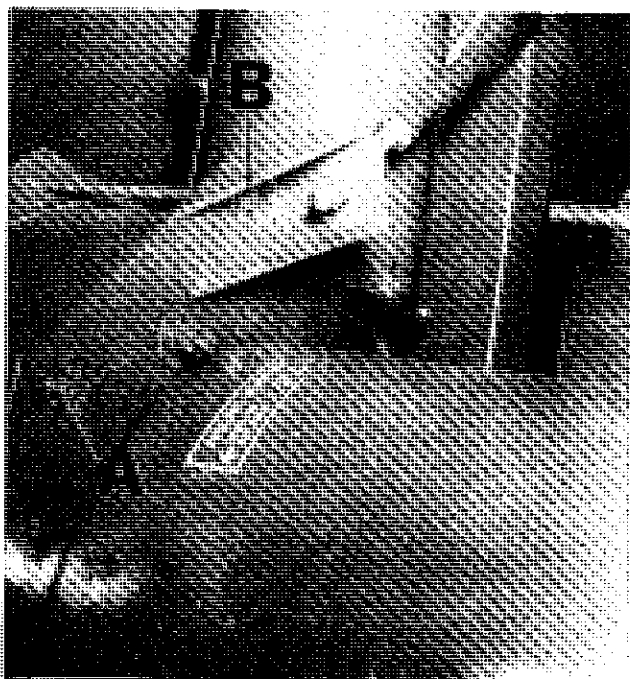

Figure 11 — Support Rod and Brace
17. Remove (2) hex nuts and lockwashers from Points A and B on large blower housing, Figure 11. Install brace, Item 27, page 19, and add (2) 5/16 flat washers, lock washers and hex nuts and tighten bolts.